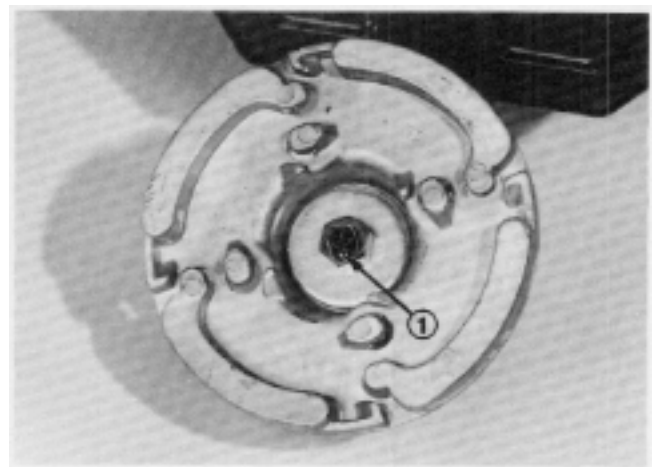

Figure 152
5. Inspect the spool for damage. Pay particular attention to the area where the line exits the spool. Burrs in this area can lead to premature line breakage at the point where it exits the spool. See Figure 152.